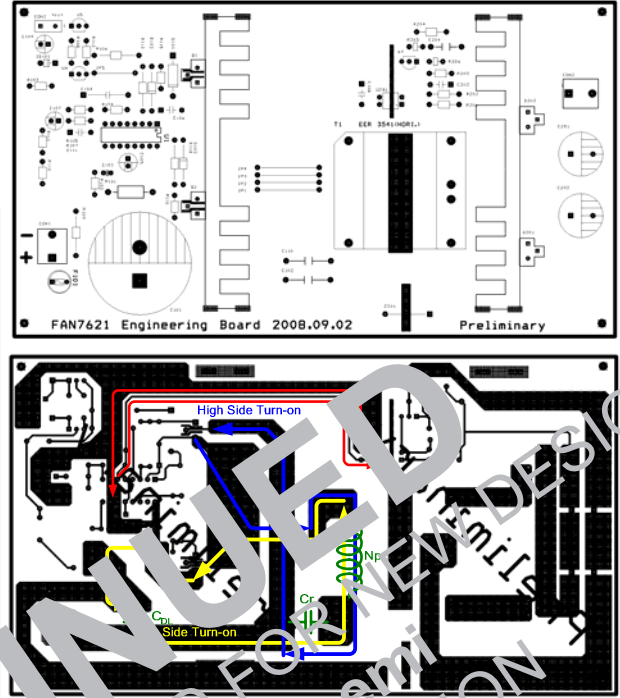

Figure 28. Example for Duty Balancing
**5.3 Overload Protection (OLP):** Overload is defined as the load current exceeding its normal level due to an unexpected abnormal event. In this situation, the protection circuit should trigger to protect the power supply. However, even when the power supply is in the normal condition, the overload situation can occur during the load transition. To avoid premature triggering of protection, the overload protection circuit should be designed to trigger only after a specified time to determine whether it is a transient situation or a true overload situation. Figure 28 shows a typical overload protection circuit. By sensing the resonant capacitor voltage on the control pin, the overload protection can be implemented. Using a time constant, shutdown delay can be adjusted. The voltage obtained on the control pin is given by:
**6. PCB Layout Guideline:** Duty imbalance problems may occur due to the radiated noise from main transformer, the inequality of the secondary-side leakage inductances of main transformer, and so on. Among them, it is one of the dominant reasons that the control components in the vicinity of  $R_T$  pin are enclosed by the primary current flow pattern on PCB layout. The direction of the magnetic field on the components caused by the primary current flow is changed when the high-and-low side MOSFET turns on by turns. The magnetic fields with opposite direction from each other induce a current through, into, or out of the  $R_T$  pin, which makes the turn-on duration of each MOSFET different. It is strongly recommended to separate the control components in the vicinity of  $R_T$  pin from the primary current flow pattern on PCB layout. Figure 28 shows an example for the duty-balanced case. The yellow and blue lines show the primary current flows when the lower-side and higher-side MOSFETs turns on, respectively. The primary current does not enclose any component of controller.
In addition, it is helpful to reduce the duty imbalance to make the loop configured between CON pin and optocoupler as small as possible, as shown in the red line in Figure 28.